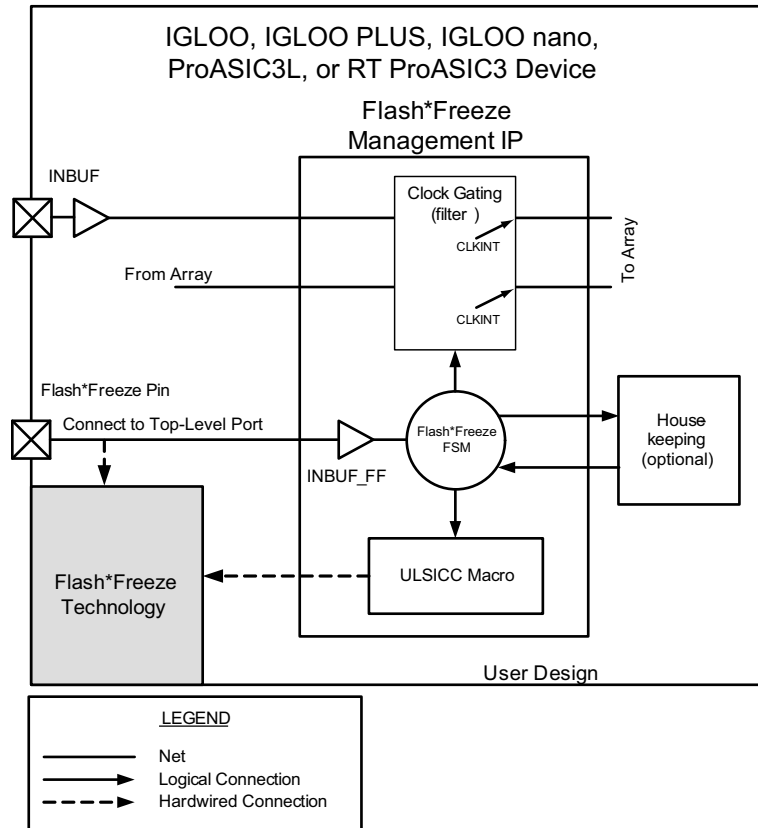
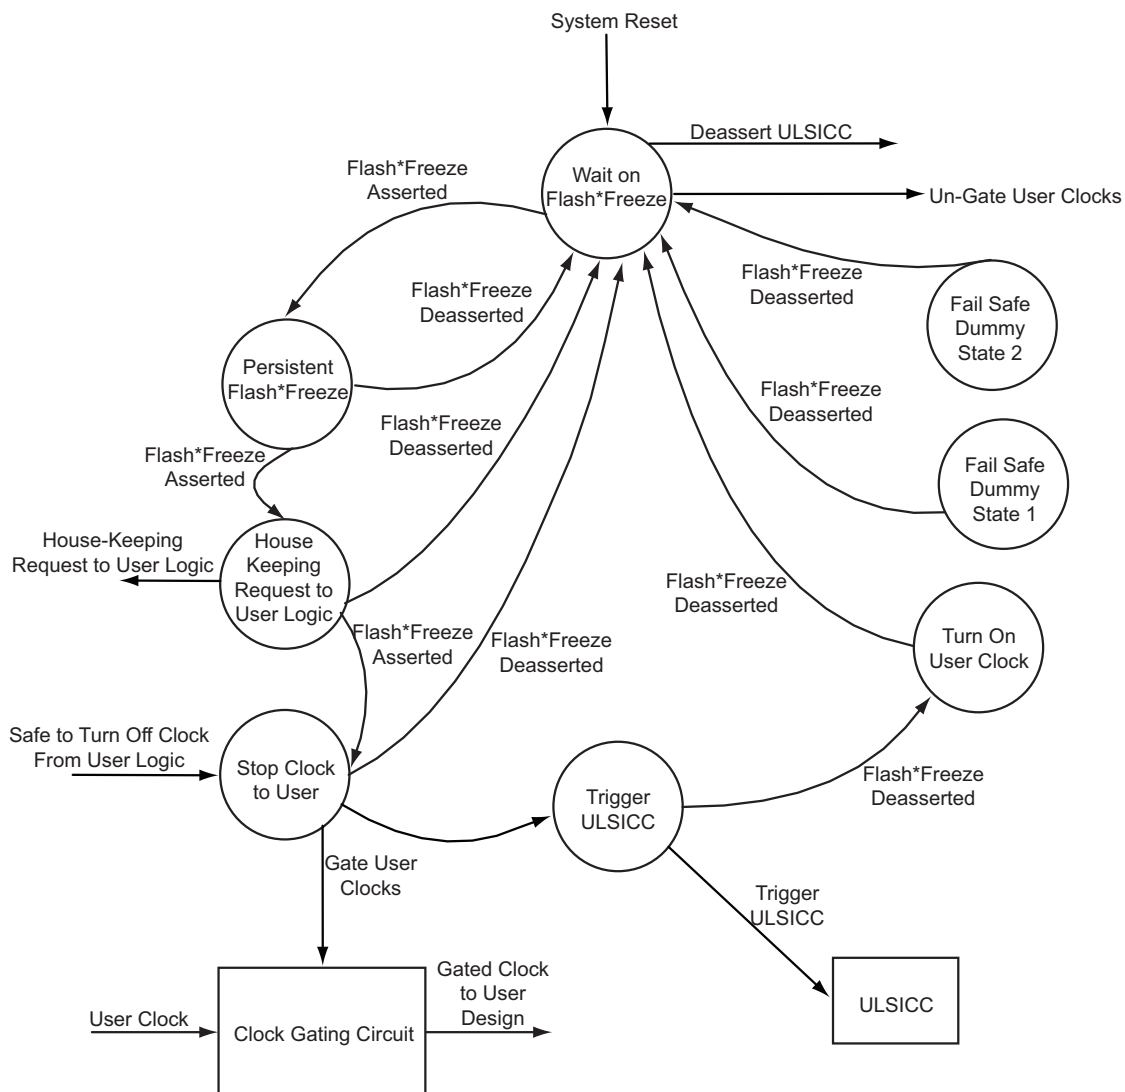

Figure 2-10 • Flash*Freeze Management IP Block Diagram
Figure 2-11 • FSM State Diagram
The Flash*Freeze management IP is comprised of three blocks: the Flash*Freeze finite state machine (FSM), the clock gating (filter) block, and the ULSICC macro, as shown in Figure 2-10.
The Flash*Freeze FSM block is a simple, robust, fully encoded 3-bit state machine that ensures clean entrance to and exit from Flash*Freeze mode by controlling activities of the clock gating, ULSICC, and optional housekeeping blocks. The state diagram for the FSM is shown in Figure 2-11 on page 38. In normal operation, the state machine waits for Flash*Freeze pin assertion, and upon detection of a request, it waits for a short period of time to ensure the assertion persists; then it asserts WAIT_HOUSEKEEPING (active High) synchronous to the user's designated system clock. This flag can be used by user logic to perform any needed shutdown processes prior to entering Flash*Freeze mode, such as storing data into SRAM, notifying other system components of the request, or timing/validating the Flash*Freeze request. The FSM also asserts Flash_Freeze_Enabled whenever the device enters Flash*Freeze mode. This occurs after all housekeeping and clock gating functions have completed. The Flash_Freeze_Enabled signal remains asserted, even during Flash*Freeze mode, until the Flash*Freeze pin is deasserted. Use the Flash_Freeze_Enabled signal to drive any logic in the design that needs to be in a particular state during Flash*Freeze mode. The DONE_HOUSEKEEPING (active High) signal should be asserted to notify the FSM when all the housekeeping tasks are completed. If the user chooses not to use housekeeping, the Flash*Freeze management IP core generator in Libero SoC will connect WAIT_HOUSEKEEPING to DONE_HOUSEKEEPING.
- When the INBUF_FF macro is used, the FF pin will establish a hardwired connection to the Flash*Freeze technology circuit in the device, as shown in Figure 2-1 on page 25, Figure 2-3 on page 27, and Figure 2-10 on page 37, and described in the "Flash*Freeze Type 1: Control by Dedicated Flash*Freeze Pin" section on page 24.
The User Low Static ICC (ULSICC) macro allows the FPGA core to access the Flash*Freeze Technology block so that entering and exiting Flash*Freeze mode can be controlled by the user's design. The ULSICC macro enables a hard block with an available LSICC input port, as shown in Figure 2-3 on page 27 and Figure 2-10 on page 37. Design rules for the ULSICC macro are as follows:
Figure 2-10 • Flash*Freeze Management IP Block Diagram – new Figure 2-11 • FSM State Diagram – new Table 2-6 • IGLOO nano and IGLOO PLUS Flash*Freeze Mode (type 1 and type 2)—I/O Pad State – updated Please review the entire document carefully.	37 38 29